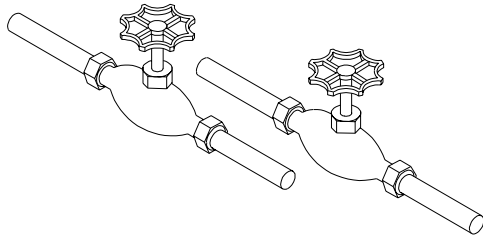

Figure 3-1. Shutoff Valves
- If unit is equipped with steam option, shutoff valve (not by STERIS) should be installed on steam line near dryer (see Figure 3-1). Shutoff valve must be capable of being locked in OFF position.